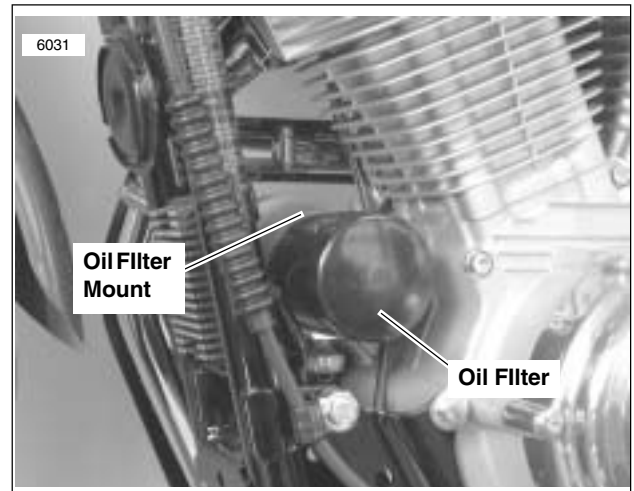

Figure 1-3. Oil Filter
- See Figure 1-3. Turn oil filter counterclockwise to remove from filter mount.